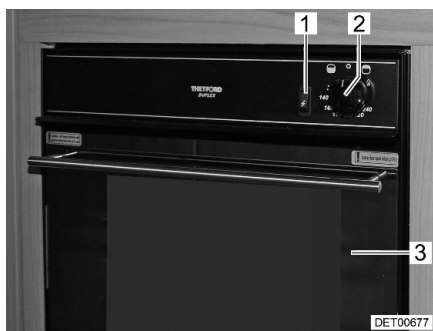
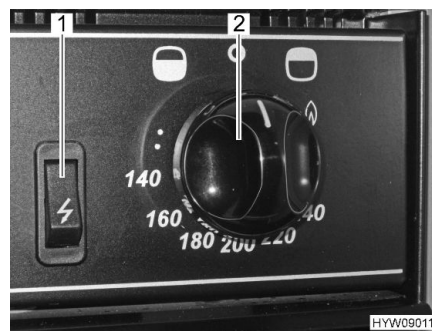

Fig. 88 Gas oven with grill
Fig. 89 Operating controls (gas oven with grill)
- Fully open the oven flap (Fig. 88,3).
- Press the control knob (Fig. 88,2 and Fig. 89,2) and set it to the maximum setting anticlockwise (towards the oven symbol "🔥").
- Press the control knob (Fig. 88,2 and Fig. 89,2) and hold it down for 5 to 10 seconds. Gas will stream into the burner.
- Keep the ignition switch (Fig. 88,1 and Fig. 89,1) pressed until the flame burns.
- Press the control knob (Fig. 88,2 and Fig. 89,2) and turn it clockwise (towards the grill symbol "🔥") in the direction of the flame symbol.
- Turn the control knob (Fig. 88,2 and Fig. 89,2) to "0". The flame fades.